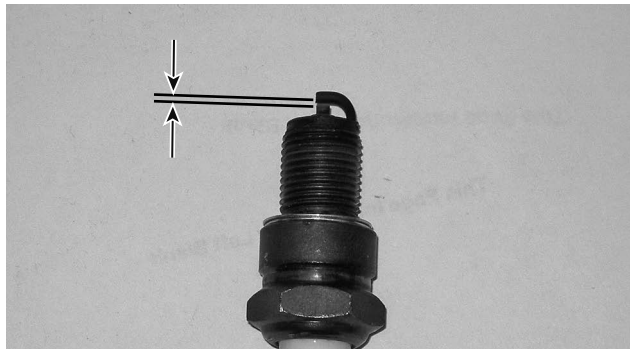

Figure 51 – Spark Plug Gap Requirements
- Spark plug gap of 0.032 in. (0.80 mm) (see Figure 51).